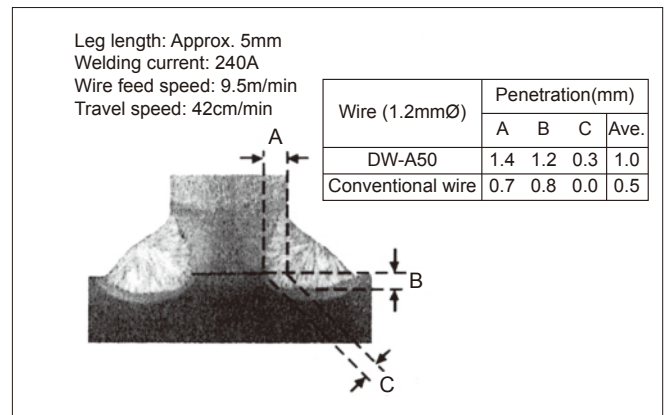

Fig. 3 — Penetration test results of FAMILIARC™ DW-A50 in horizontal fillet welding with 80%Ar+20%CO₂ gas shielding
- (3) Superb usability with gentle arcing, less spatter generation, uniform bead appearance, and easy-to-remove slag.
- (4) Less welding fume generation than that of conventional titania-base flux-cored wire
- (5) Deeper penetration — Fig. 3.